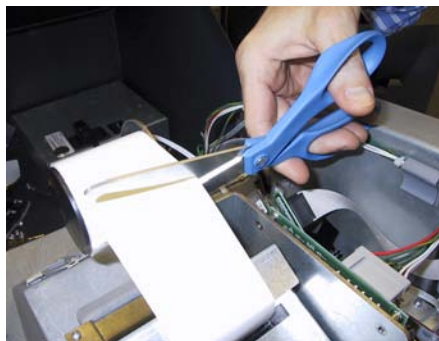

Figure 5-1. Cut paper between the roll and the printer feed path.
2. If paper remains on the roll, cut or tear the paper between the roll and the printer (Figure 5-1).